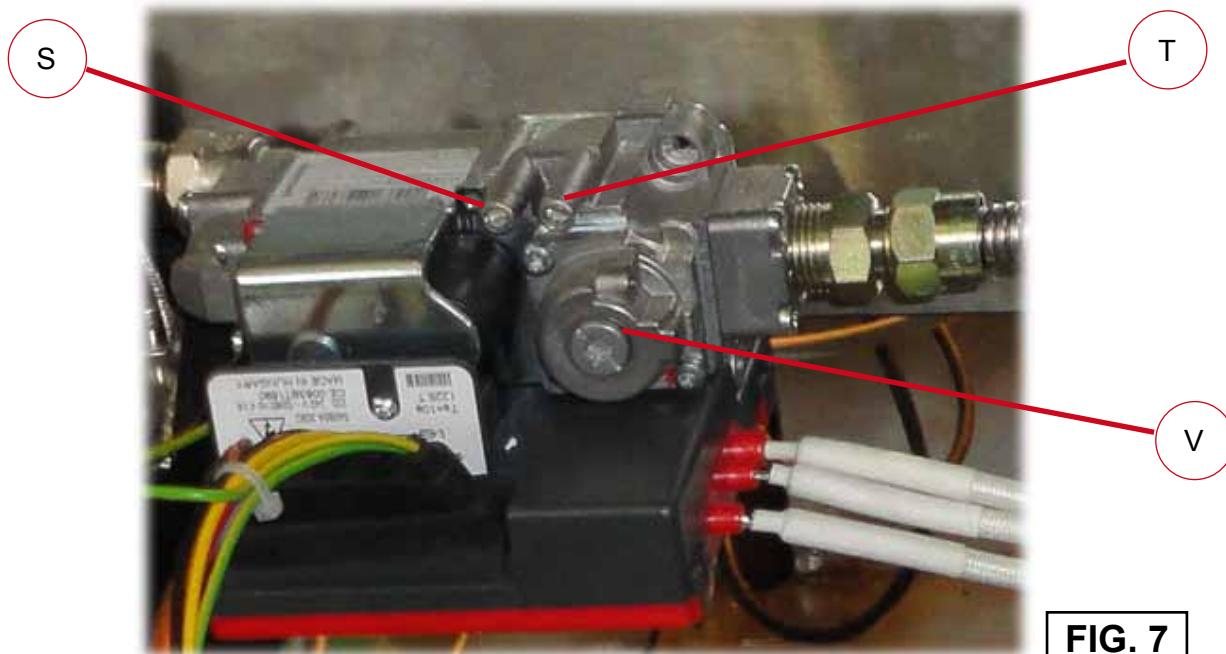

FIG. 7
CVI gas valves are provided with proper fittings 9 millimeter diameter for gage connection to check both Supply gas pressure (S) and Manifold pressure (T), see Fig.7